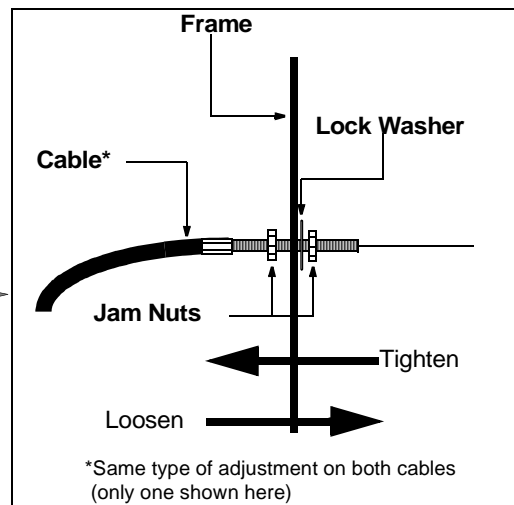

Figure 11
Adjustment to the brake pedal is made at the cable end. See Figure 11 .
- Locate the brake cable on the right side under the front housing. See Figure 11 .
- Using a pair of 1/2" wrenches, loosen the jam nuts and back the cable out to tighten or thread inward to loosen. See Figure 11 inset.
Adjustment to the "Go" pedal is made at the cable end. See Figure 11 .
- Locate the speed control cable under the front housing. See Figure 11 .